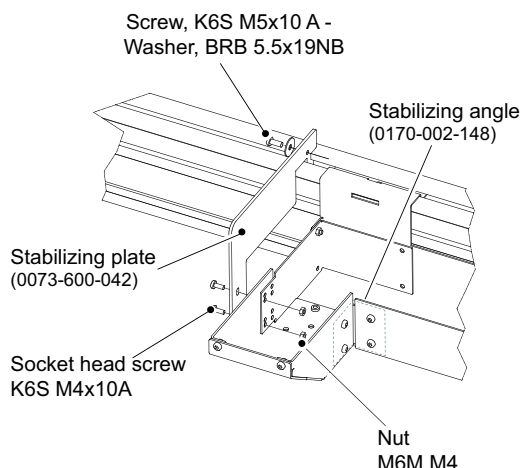

Fig. 4-32 Stabilizing plate
**Remember to fasten the nut and washer at the upper side of the stabilizing plate, in accordance with Fig. 4-32 Stabilizing plate**
7. Fasten the nut and washer at the upper side of the stabilizing plate, in accordance with Fig. 4-32.